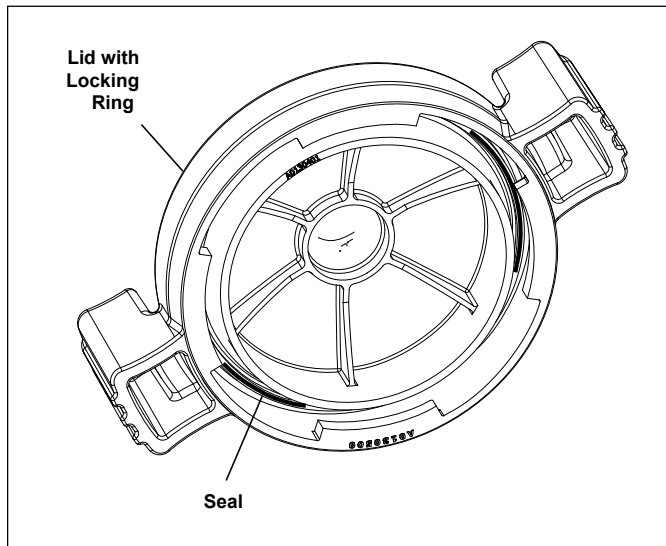

Figure 11. O-ring in Lid Assembly
4. Following the markings on the locking ring, turn the ring counter-clockwise until the 'START' markings align with the ports. See Figures 11 and 12.